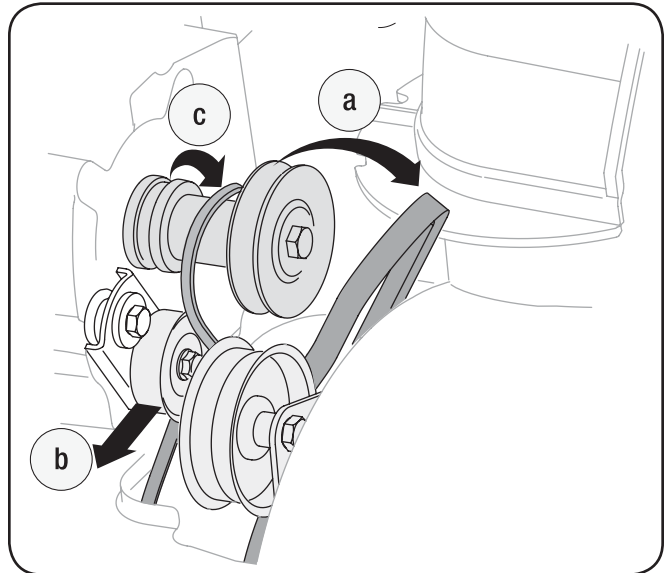

Fig. 7-6
3. Remove the belt as follows. See Fig. 7-6: